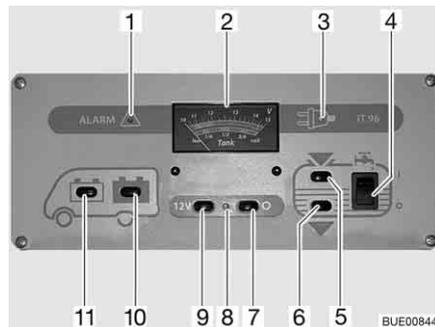

Fig. 154 Panel IT 96-2
The 12 V main switch (Fig. 154,7 and 9) switches the panel and the 12 V power supply to the living area on and off.
*Switching on:* ■ Press switch (Fig. 154,9) "12 V": The 12 V living area power supply is switched on. The indicator lamp (Fig. 154,8) lights up green.
*Switching off:* ■ Press switch (Fig. 154,7) "O": The 12 V living area power supply is switched off. The indicator lamp (Fig. 154,8) goes out.
With the V/tank gauge (Fig. 154,2), note the top scale. The gauge automatically lights up as soon as a switch is pressed.
- Press switch (Fig. 154,11) : The battery voltage of the starter battery is displayed.
- Press switch (Fig. 154,10) : The battery voltage of the living area battery is displayed.
The V/tank gauge is for the indication of the quantity of water or waste water. With the V/tank gauge (Fig. 154,2), use the bottom scale. The gauge automatically lights up as soon as a switch is pressed.
- Press switch (Fig. 154,5) "": The volume of water is displayed.
- Press switch (Fig. 154,6) "": The volume of waste water is displayed.
*Switching on:* ■ Press the upper part of the rocker switch (Fig. 154,4) "I": The water supply is ON.
*Switching off:* ■ Press the lower part of the rocker switch (Fig. 154,4) "O": The water supply is OFF.
The red "ALARM" warning light (Fig. 154,1) flashes as soon as the voltage of the living area battery falls below 11 V (measured under operation) and there is a risk of a total discharge.
The 12 V indicator lamp (Fig. 154,8) illuminates whenever the 12 V main switch (Fig. 154,9) is switched on.
The yellow 230 V indicator lamp (Fig. 154,3) illuminates whenever line voltage is available at the transformer/rectifier input.